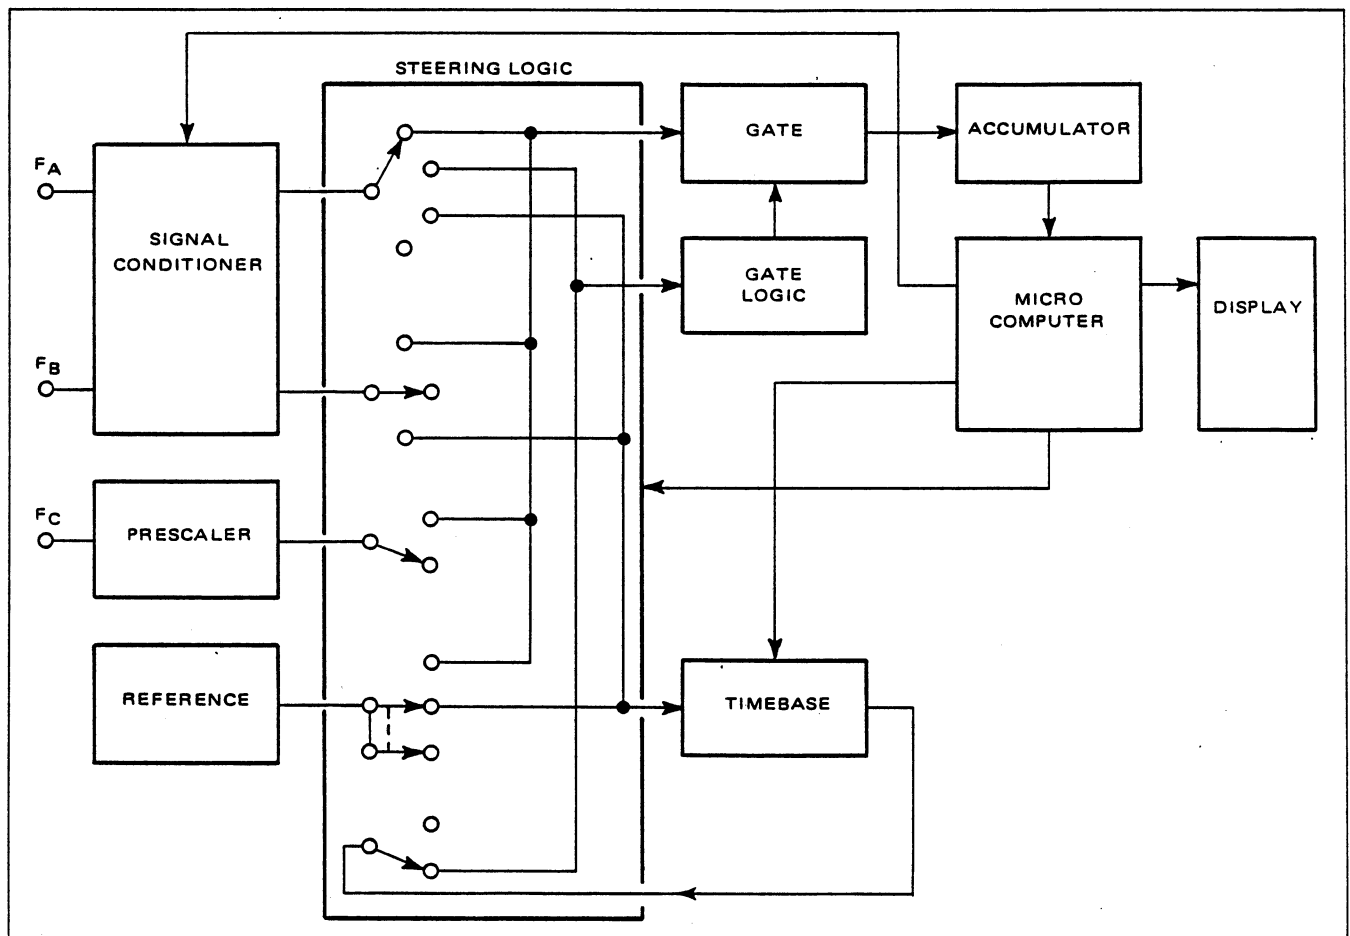

Figure 4.1 - 9000A Block Diagram
4.1.1 This section covers the Theory of Operation of the Series 9000A Microprocessing Timer/Counter. The operation is first analyzed in terms of a basic block diagram (figure 4.1); second, the various operating modes are examined; and third, individual circuits are described.
4.2.1 The Series 9000A is shown in block diagram form in figure 4.1. Referring to this drawing, input signals are processed through the signal conditioner or RF prescaler and fed to the steering synchronizing circuitry. Depending on the function selected, the steering circuitry routes the input signal to the main gate, control logic or the timebase. The synchronizing circuitry is used in the TIA function.